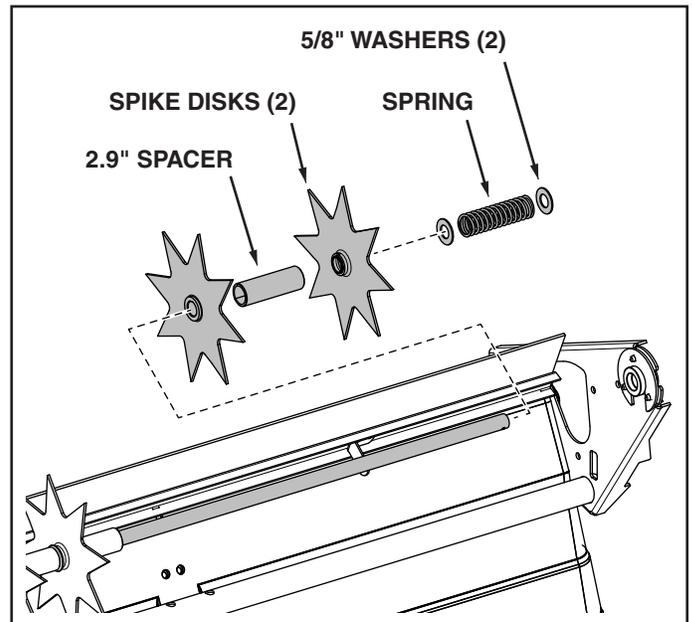

FIGURE 7
- Assemble two spike disks and a 2.9" spacer onto the axle. The flat side of the disks should face away from the spacer. See figure 7.
- Assemble two 5/8" washers and a spring onto the axle. See figure 7.